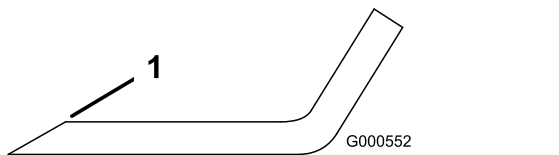

**Figure 50**
Hold the blade end using a rag or thickly-padded glove. Remove the blade bolt, curved washer, and blade from the spindle shaft (Figure 50).
- Install the blade onto the spindle shaft (Figure 50).
- Install the curved washer (cupped side toward the blade) and the blade bolt (Figure 50).